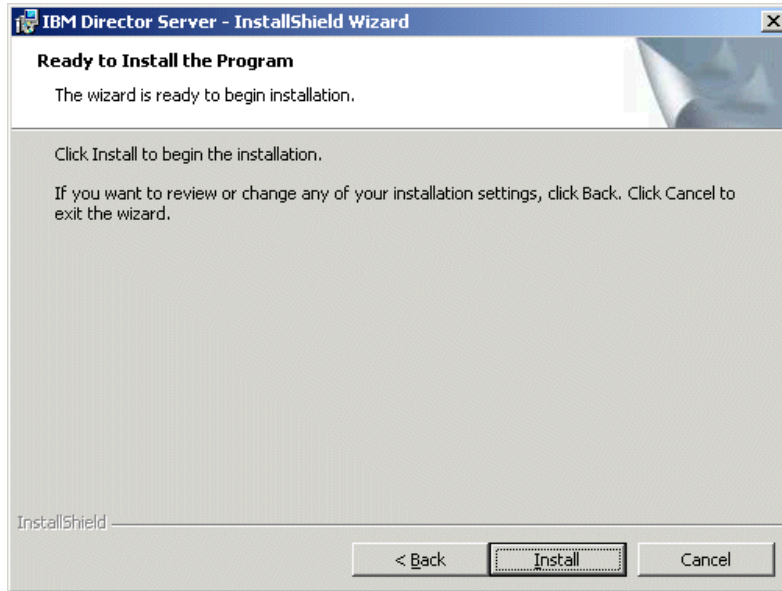

Figure 4-9 Ready to Install the Program window
11. In the Web server information window, accept defaults by clicking **Next**. You will see a window similar to Figure 4-9.